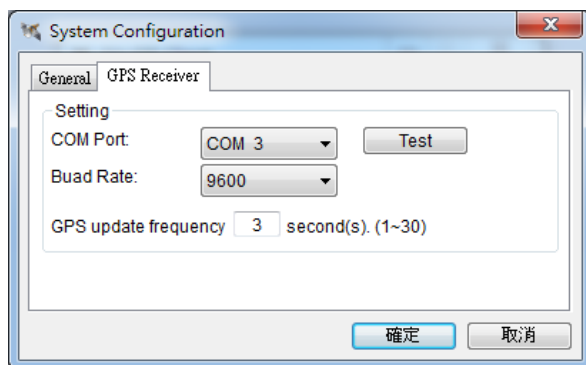

Figure 4-10
- A. Make sure you enable the GPS Receiver on the GV-GIS Client (see *Figure 4-10*).